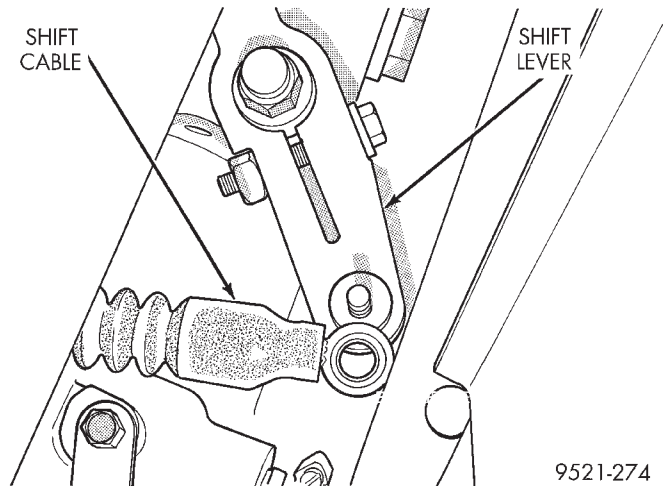
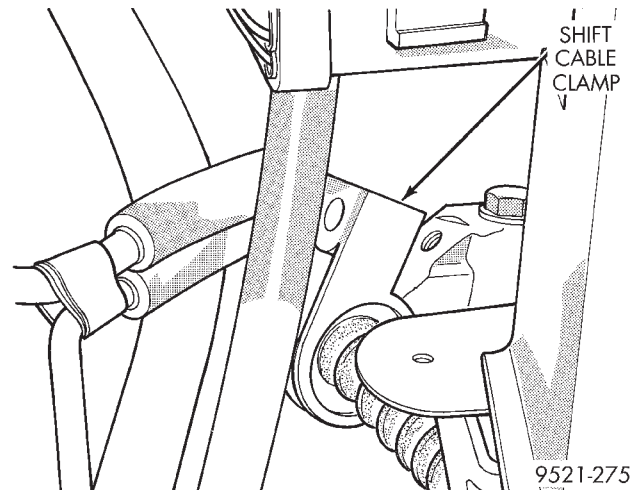

Fig. 45 Shift Cable at Lever
Fig. 46 Shift Cable Clamp
- (7) Remove shift cable at lever and at clamp on transaxle (Fig. 45) (Fig. 46).